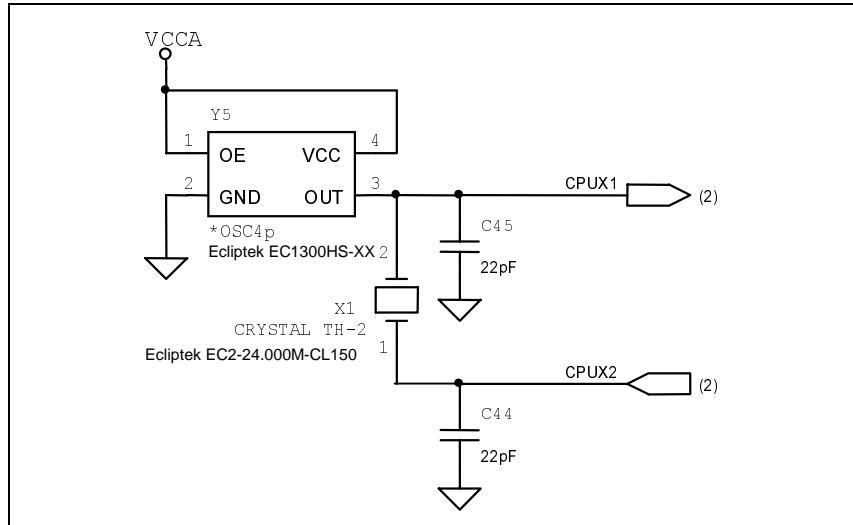
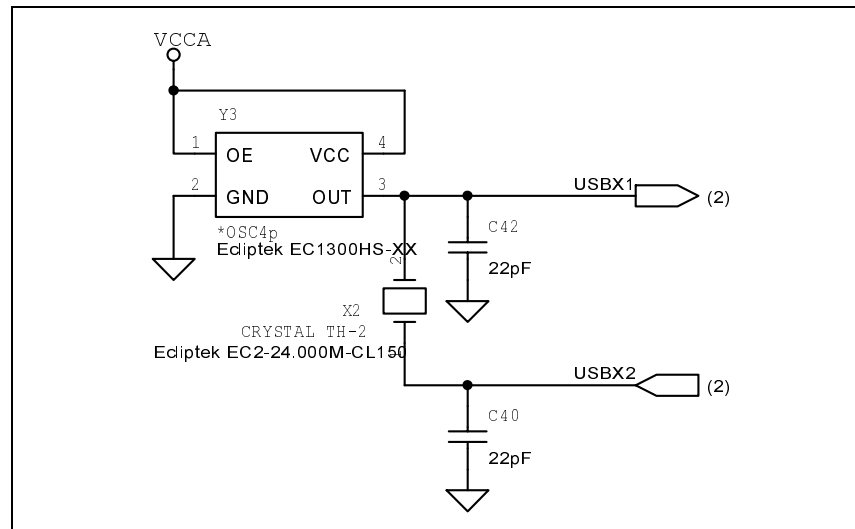

Figure 2-6. Am186™CC/CH/CU Microcontroller System Clock
Figure 2-7. Am186CC or Am186CU Microcontroller USB Clock
The system and USB clocks, shown in Figure 2-6 and Figure 2-7, respectively, use internal oscillators and PLLs that enable the use of slower, less costly, fundamental mode crystals for providing system clock frequencies from 16 to 50 MHz, and a USB frequency of 48 MHz. The UART clock can be derived from the system clock frequency, or from the UCLK input by using an external oscillator. The on-board MACH device can be used for the DCE or PCM HDLC clocks at various frequencies and frame syncs (PCM mode only); or if you are using the development module interface, you can drive the HDLC clocks from a specific DCE, PCM, or GCI peripheral. For the available clock options, see Table 2-2.
The system clock, shown in Figure 2-6 on page 2-12 (or sheet 3 of the main board schematics included in your kit), can be derived from a fundamental mode crystal by doing one of the following:
- The USB clock (shown in Figure 2-7 or sheet 3 of the main board schematics included in your kit), which must be 48 MHz, may be derived from one of the following: